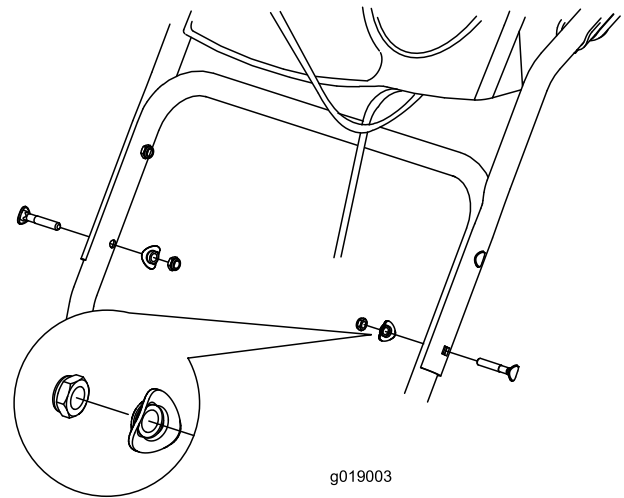

Figure 4
1. Lift and rotate the upper handle and position it over the lower handle (Figure 4).
2. Install 2 handle bolts, 2 curved washers, and 2 locknuts in the lower handle holes (Figure 4).